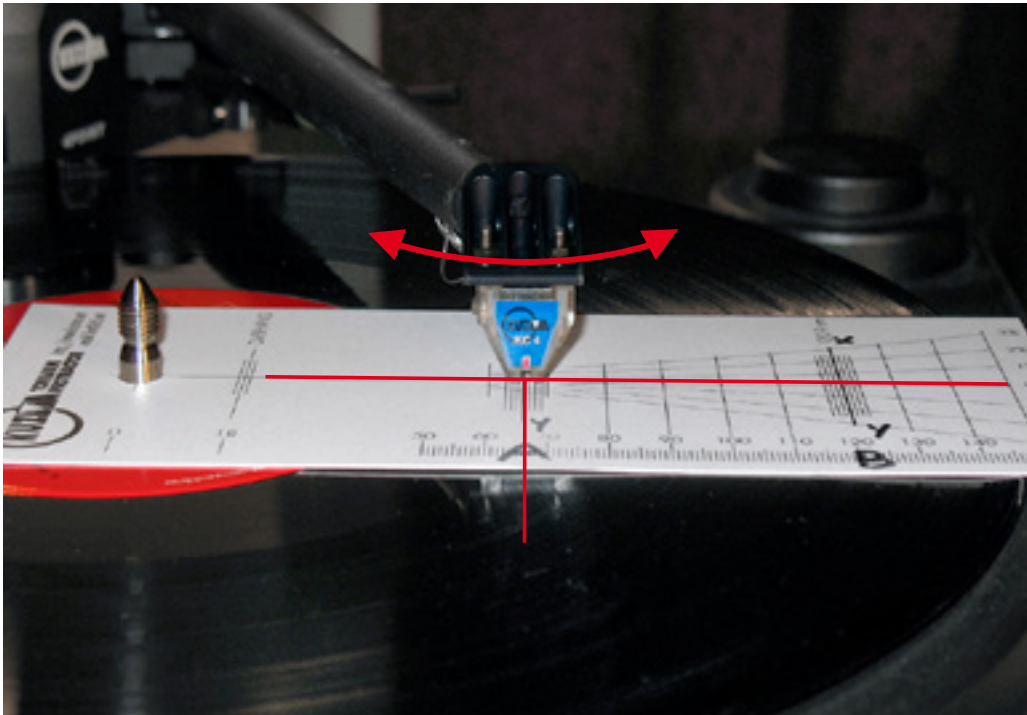

Fig. 27. Alignment at intersection A (inner null line: 'Y-X' and zero line)– cartridge rotation
### 1. Alignment at intersection A Fig. 27 & 30
### **3. Repeat alignment at intersection A** Fig. 27
Again place the tip (stylus) precisely at intersection A. If the cantilever is not parallel with the 'Y–X' line, then the body of the cartridge will have to be again rotated slightly and then checked again at B. Fig. 27.
### **5. Repeat alignment at intersection A** Fig. 27
- a) **A:** Put the stylus tip at the intersection A of zero line and 'Y-X' line and, by cartridge body rotation, align the cantilever along the 'Y-X' line. Fig. 27 & 30